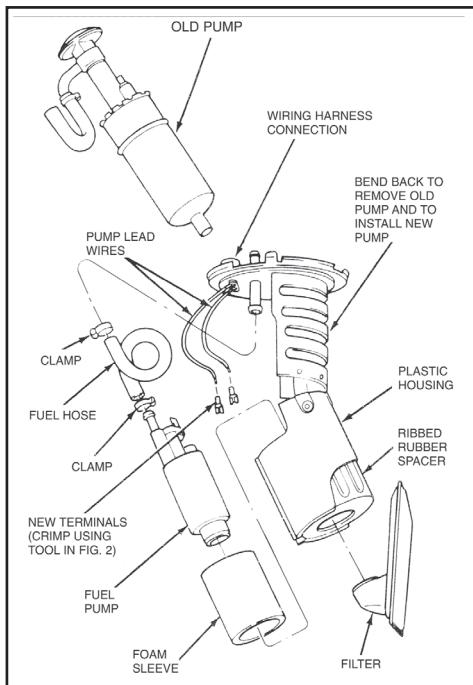

Fig. 1
1. Insert the new pump into the foam sleeve. Insert pump and sleeve into ribbed rubber spacer that was left in plastic housing. Orient the pumps fuel fitting near front of bracket (see Fig. 1). Lubricate the pump fitting and bracket tube with a light coating of petroleum jelly. Install the hose as shown making sure to lightly secure the clamps provided around the fittings.